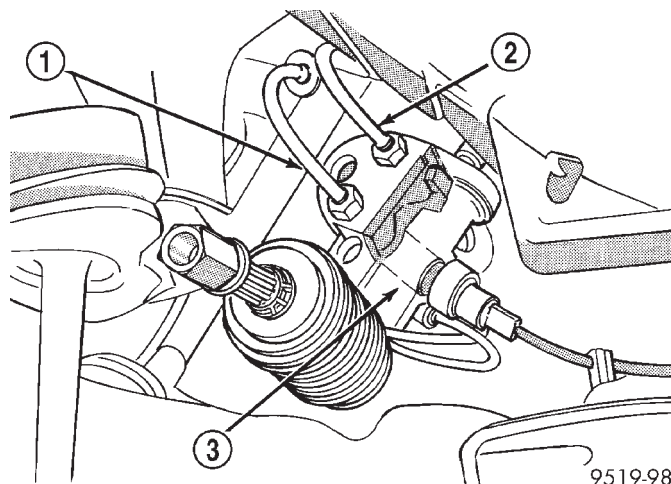

Fig. 3 Power Steering Hose Connections At Steering Gear
(2) Lower the front suspension crossmember far enough to gain access to the high and low pressure ports on the steering gear.
(3) Disconnect the power steering pressure hose (Fig. 3) at the power steering gear. Drain power steering fluid from power steering pump and hose through open end of hose.